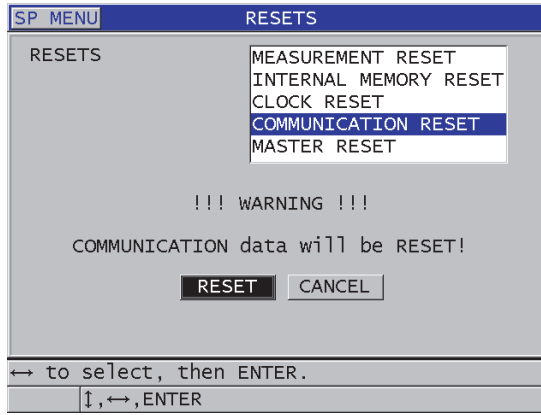

Figure 14-13 Selecting the **COMMUNICATION RESET**
3. In the **RESETS** screen (see Figure 14-13 on page 284):